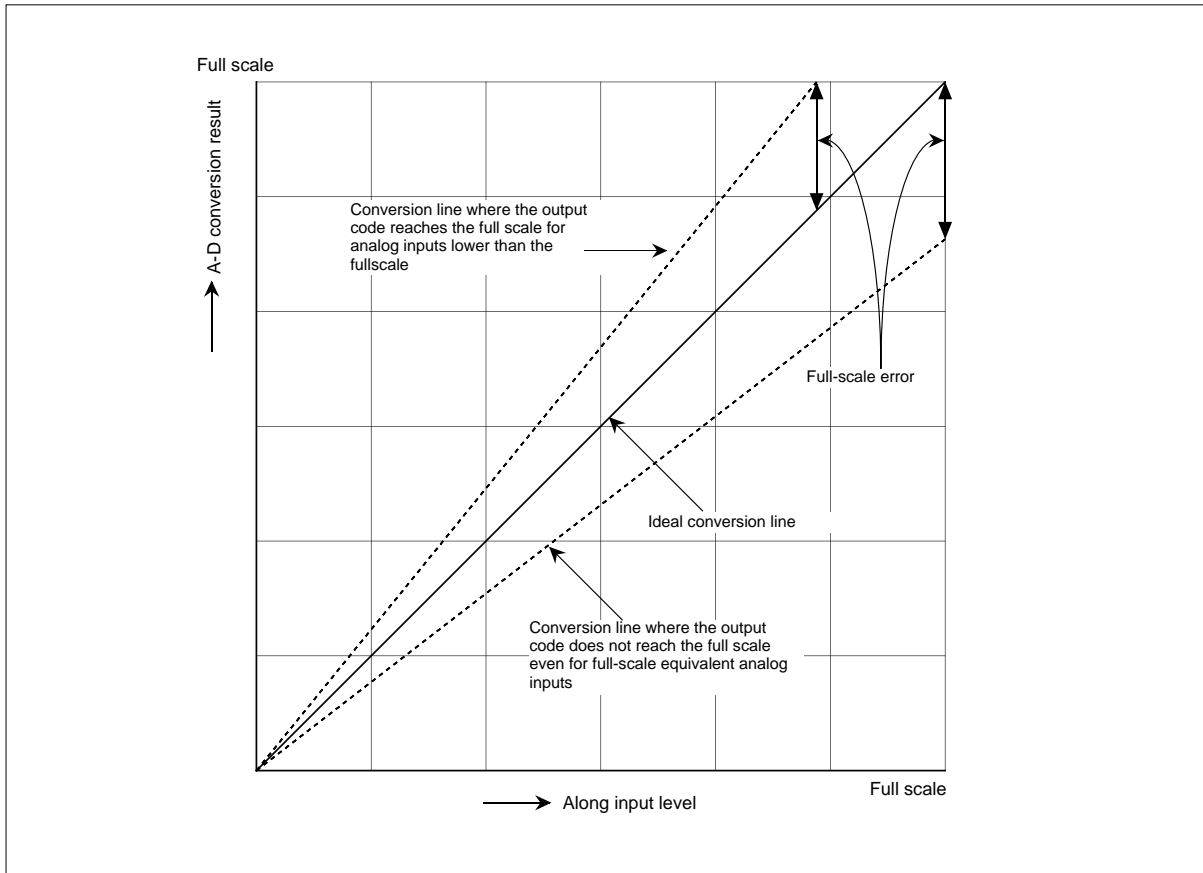

Figure 11.3.7 A-D Converter's Full-scale Error
- (4) Full-scale error ..... Refers to an amount of dislocation by which the analog input voltage at which the digital output code reached the full-scale value is dislocated from the nominal value. (Figure 11.3.7)